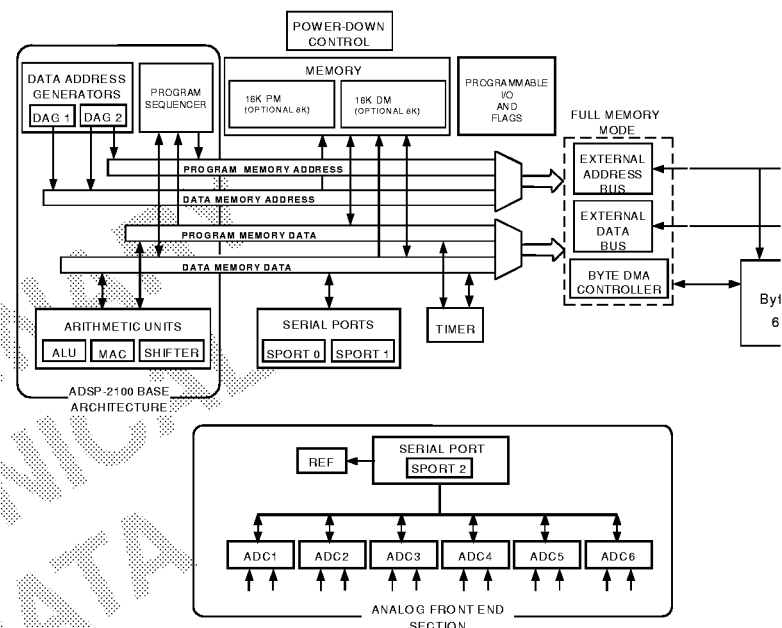

Figure 9. Functional Block Diagram
Figure 9 is an overall block diagram of the AD73560. The processor contains three independent computational units: the ALU, the multiplier/accumulator (MAC) and the shifter. The computational units process 16-bit data directly and have provisions to support multiprecision computations. The ALU performs a standard set of arithmetic and logic operations; division primitives are also supported. The MAC performs single-cycle multiply, multiply/add and multiply/subtract operations with 40 bits of accumulation. The shifter performs logical and arithmetic shifts, normalization, denormalization and derive exponent operations. The shifter can be used to efficiently implement numeric format control including multiword and block floating-point representations. The internal result (R) bus connects the computational units so that the output of any unit may be the input of any unit on the next cycle.